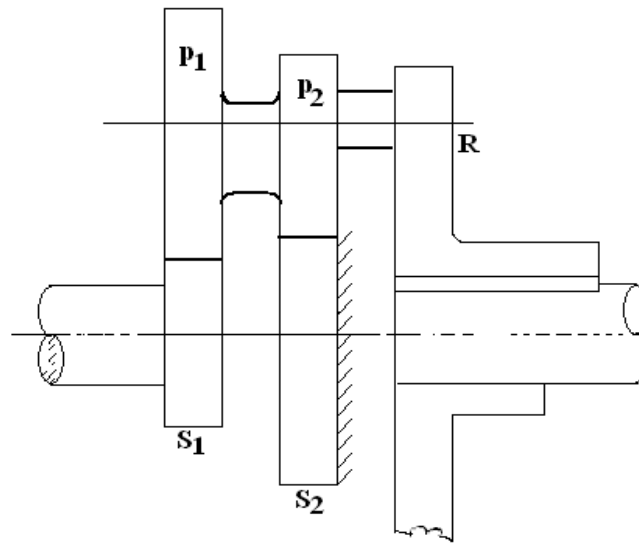

Figure 7:
3. An epi-cyclic gear in figure 7 consists of two sun wheels S_1 & S_2 with 24 & 26 teeth respectively engaged with a compound planet wheel with 26 & 29 teeth. S_1 is keyed to the driving shaft which is co-axial with the driven shaft. Find the velocity ratio of the gear. If 7.5KW power is transmitted at the input speed of 1000r.p.m, what torque is required to hold S_1 & S_2 ? [16]